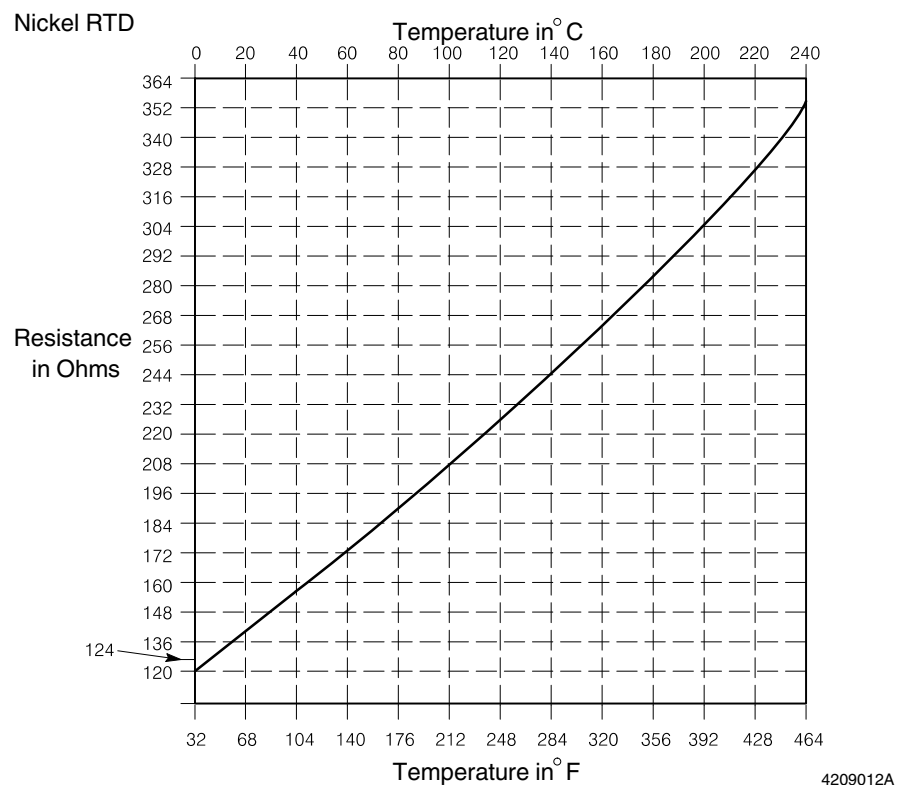

Fig. 11 RTD Resistance vs. Temperature
5. See Figure 11 to determine the expected resistance of RTD at the known temperature. Compare the expected and measured resistance values: